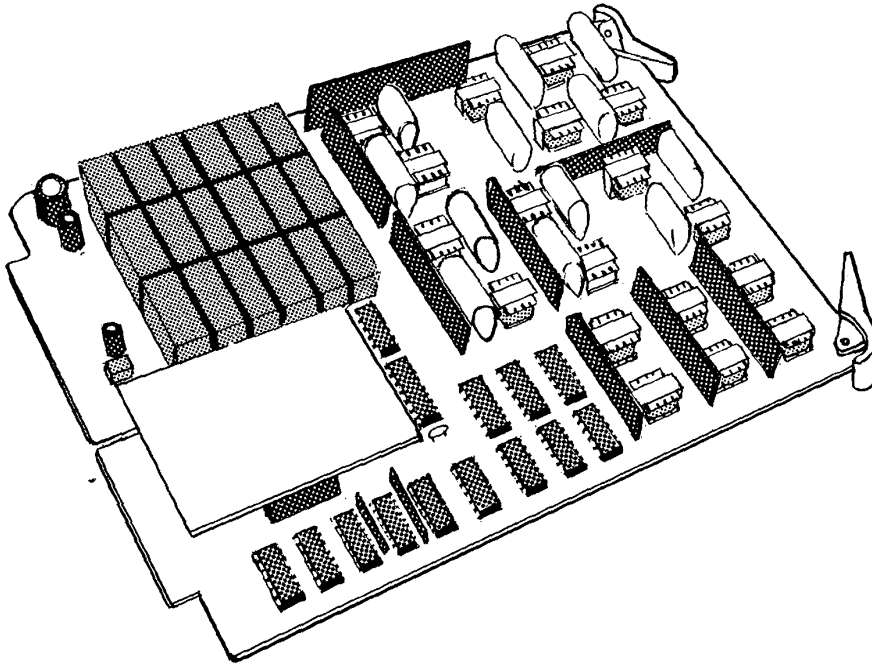

Figure 7-5 MLCU-6TA PCB, EK-616
- (d) **MLCU-6TA ( Multi-Line Conference )**, ( Figure 7-5 ) which provides circuitry for multi-line and multi-station conferencing. The MLCU-6TA also provides mounting for the optional GRDU-6A ground flash enable PCB.